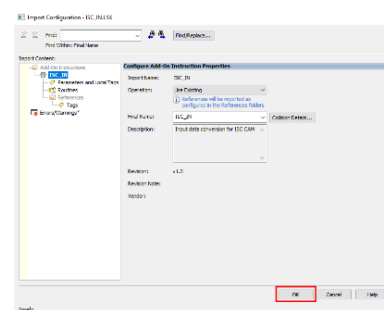

Figure 34: Import Configuration - AOI_ISC_CAM_v2_INPUTS.L5K
18. An “Import Configuration – AOI_ISC_CAM_v2_INPUTS” window opens press “OK” to add file to project, Figure 34.